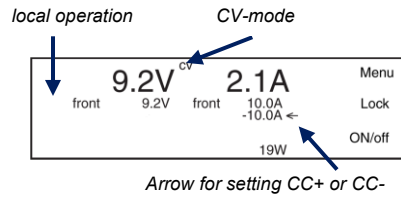

Figure 5.5: Positive and negative CC settings
- By pressing the buttons 'Lock' and 'Menu' simultaneously, the function of the A-knob changes from 'CC+' to 'CC-', to set the sink current see Figure 5.5.